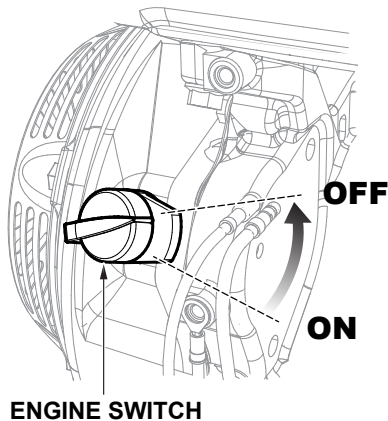

Figure 40. Engine ON/OFF Switch (OFF)
2. Release the handle and place the engine ON/OFF switch in the **OFF** position (Figure 40).